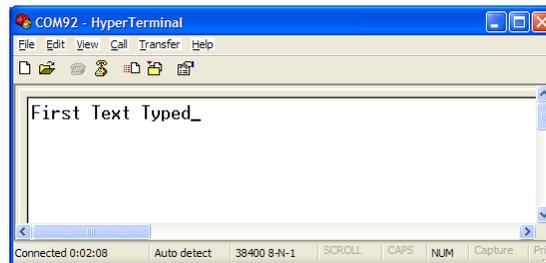

Figure 4-4. Text Echoed in Second HyperTerminal Window
2. The typed text is displayed as output in the second HyperTerminal as shown in Figure 4-4